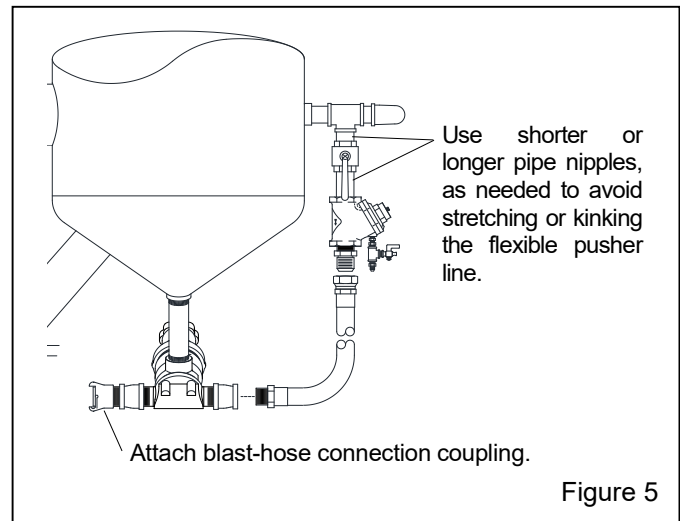

Figure 5
2.4 Connect the Pusher Line – Figure 5